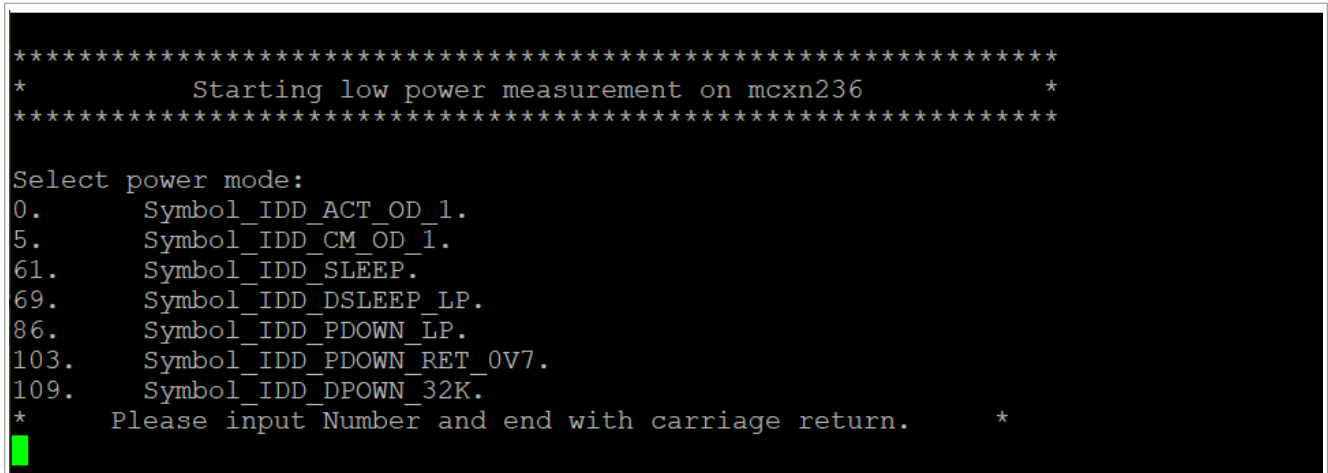

Figure 11. Select power mode
2. Follow the prompts in Figure 11 and enter a number to select a different power mode.